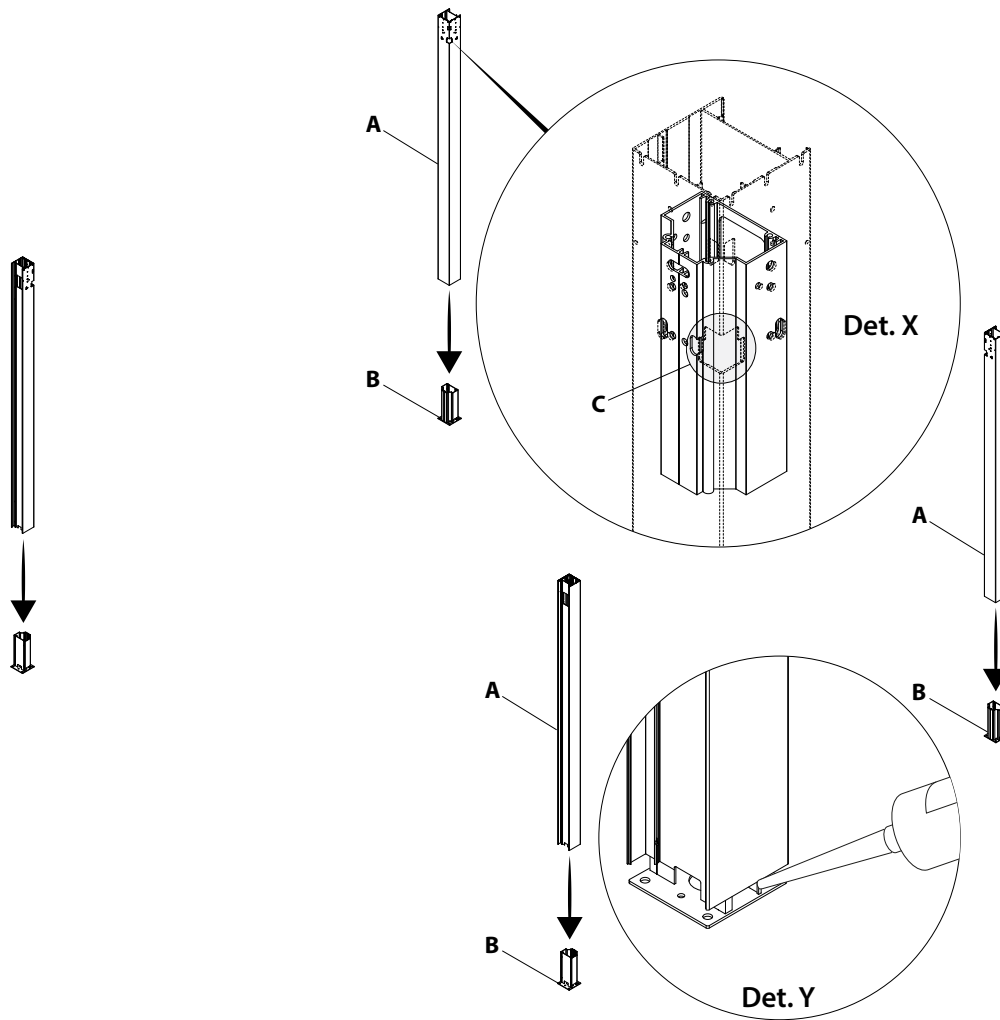

Fig. 13
- Repeat the operations described in figures 13 and 14 following the installation drawings described in this image (**det. X**).